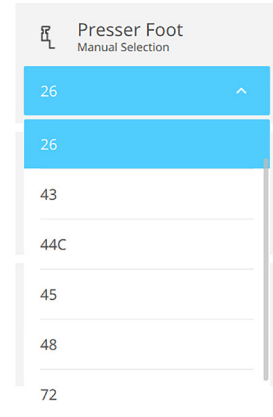

Fig. 56
- You can select a different foot from the Presser Foot drop-down menu (Fig. 56) or select it from the Presser Foot recognition screen on the Status Bar. Only compatible embroidery feet are shown in the dropdown menu. If a presser foot is not selected, the machine will prompt you to attach one.